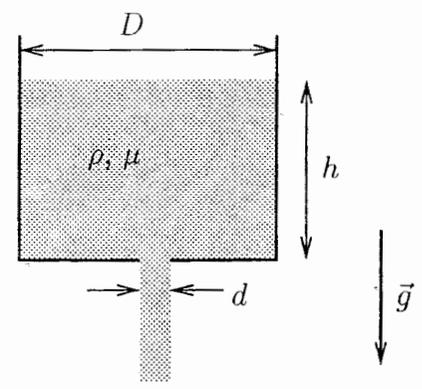

Figure 4 (for Question 4)
4. A liquid of density ρ and viscosity μ flows by gravity through a hole of diameter d at the bottom of a tank of diameter D (see Figure 4). It takes time t_{empty} to drain out the liquid of height h in the tank. So, we may say that $t_{\text{empty}} = f(\rho, \mu, g, d, D, h)$. Here, g is the gravitational acceleration. The designers want to experimentally predict the time required to drain out ethylene glycol from the tank. As ethylene